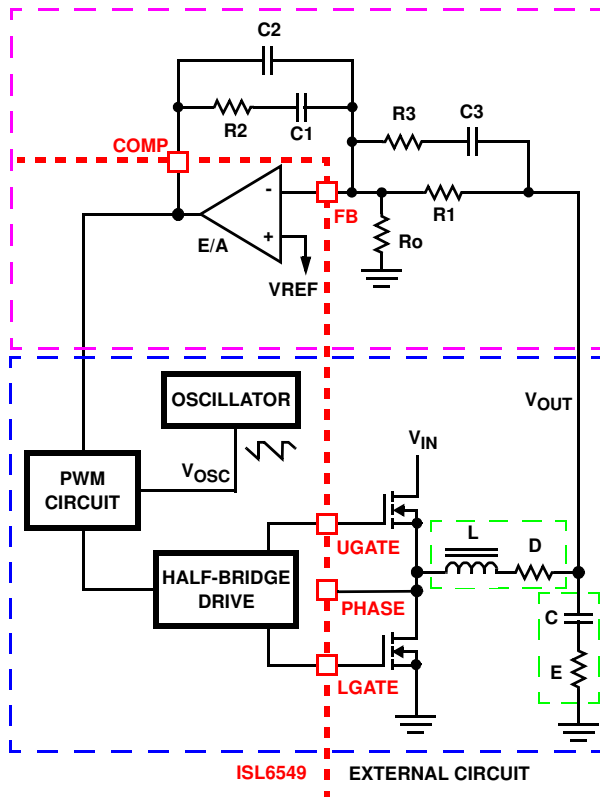

FIGURE 10. VOLTAGE-MODE BUCK CONVERTER COMPENSATION DESIGN
Figure 10 highlights the voltage-mode control loop for a synchronous-rectified buck converter, applicable to the ISL6549 circuit. The output voltage (V_{OUT}) is regulated to the reference voltage, V_{REF}. The error amplifier output (COMP pin voltage) is compared with the oscillator (OSC) modified saw-tooth wave to provide a pulse-width modulated wave with an amplitude of V_{IN} at the PHASE node. The PWM wave is smoothed by the output filter (L and C). The output filter capacitor bank's equivalent series resistance is represented by the series resistor E.
The compensation network consists of the error amplifier (internal to the ISL6549) and the external R1-R3, C1-C3 components. The goal of the compensation network is to provide a closed loop transfer function with high 0dB crossing frequency (F₀; typically 0.1 to 0.3 of F_{SW}) and adequate phase margin (better than 45 degrees). Phase margin is the difference between the closed loop phase at F_{0dB} and 180°. The equations that follow relate the compensation network's poles, zeros and gain to the components (R1, R2, R3, C1, C2, and C3) in Figure 10.
1. Select a value for R1 (1kΩ to 5kΩ, typically). Calculate value for R2 for desired converter bandwidth (F₀). If setting the output voltage via an offset resistor connected to the FB pin, R_o in Figure 10, the design procedure can be followed as presented.